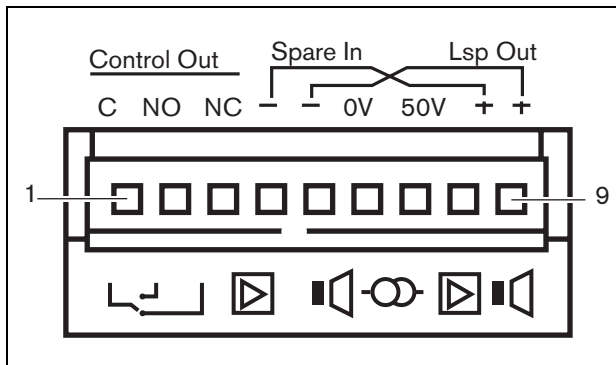

figure 8.4: Amplifier channel connector
An amplifier channel (see figure 8.4) is a group of outgoing signals that have been processed by the same amplifier unit of the power amplifier. The number of amplifier channels depends on the type of power amplifier (see table 8.3).
Each amplifier channel has one control output. The control output can be used to send signals to third party equipment to trigger actions. Each control output has three pins (see figure 8.4). The common (C) pin of the control output should always be connected. Whether the other pin that is connected is the normally closed (NC) or normally open (NO) depends on which action you want to take place when the control output is active (see table 8.5).